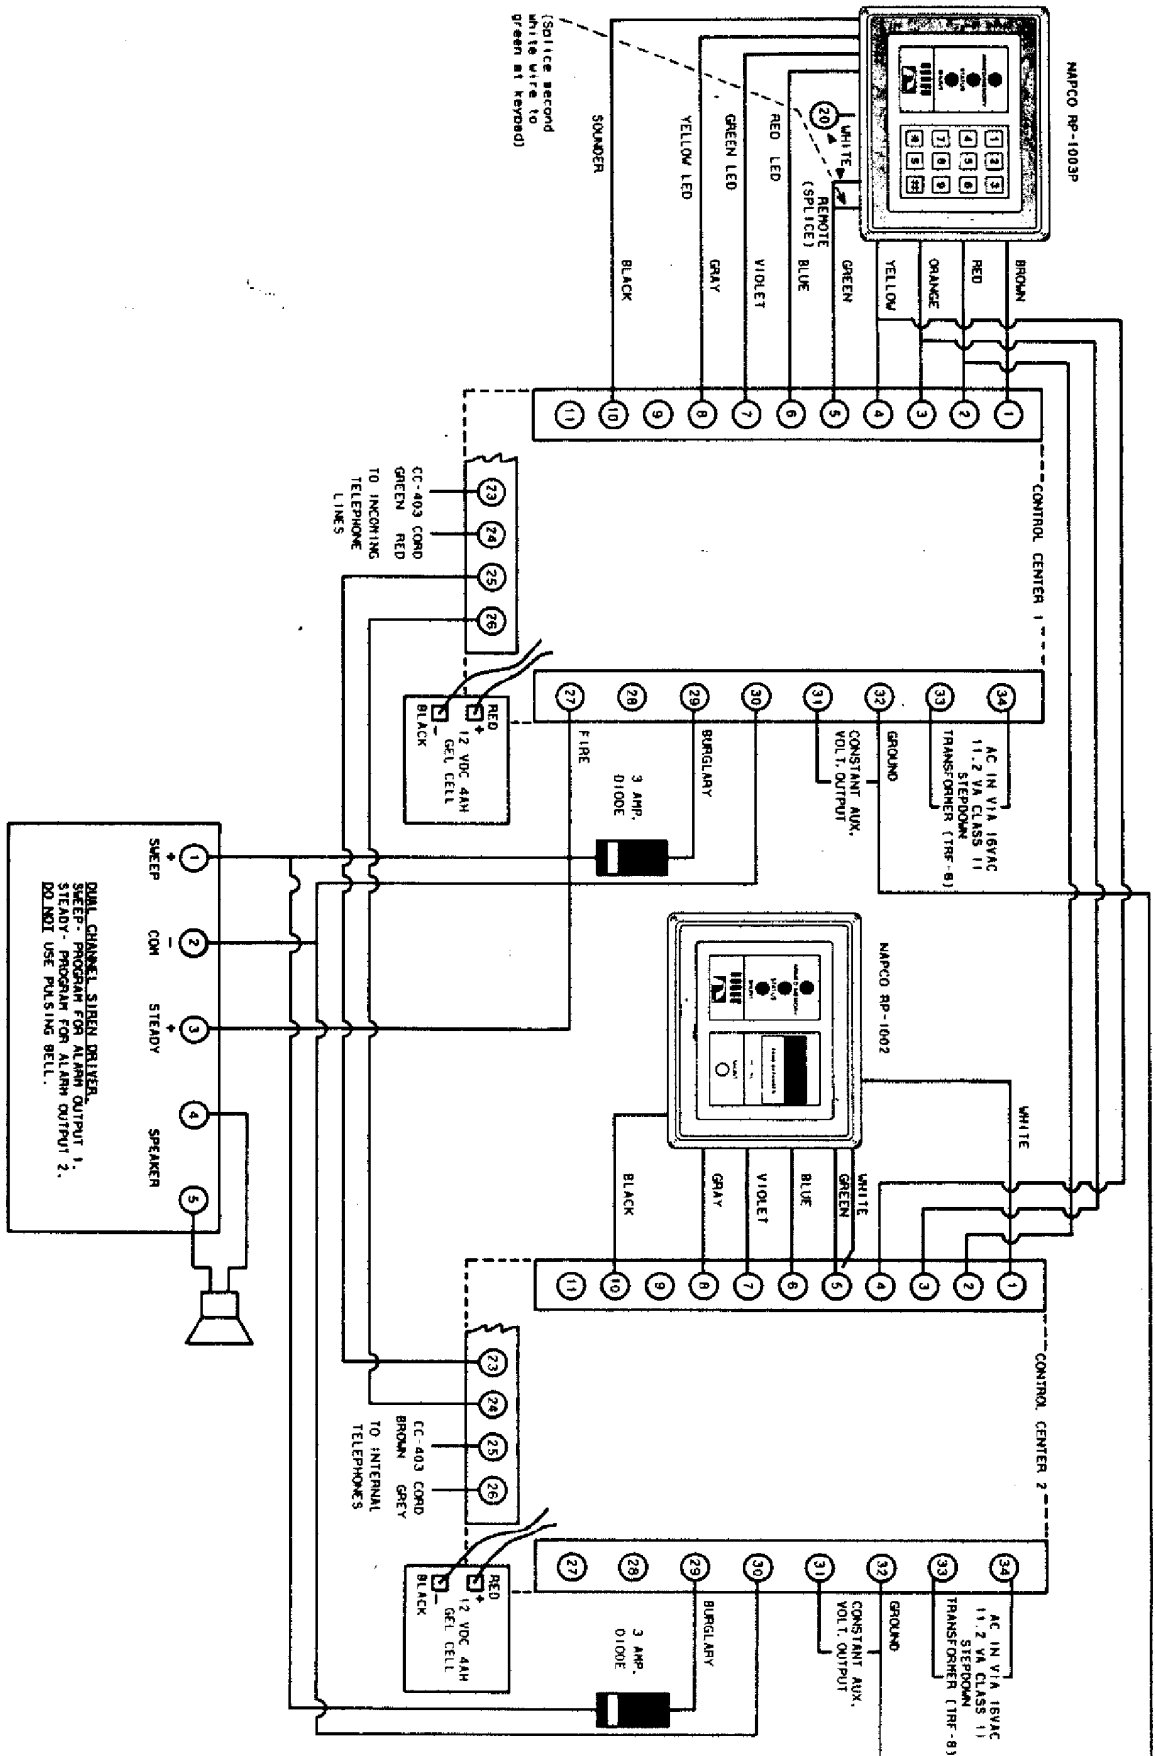

FIGURE 1: KEYPAD AND ZONE EXPANSION INDICATOR STATION WIRING REQUIRED WHEN USING TWO DIFFERENT ARMING CODES. OPTIONAL SHARED SIREN CONNECTIONS.
Although it is recommended that both of the control centers be wired to accept different arm/disarm codes, it is possible to use one code to arm and disarm them together. Each method requires different wiring connections, and different code loading and arming procedures. (See Wiring section, Figure 1 for one arm/disarm code, Figure 2 for two arm/disarm codes.)
Since incoming telephone lines are connected directly to the first control center, it will have reporting priority. Fire, panic and other high priority alarm devices should be wired to this first control center, as shown in Figures 1 and 2.
Two Arm/Disarm Codes (Figure 1): Connect all RP-1003P Keypads to the first control center and RP-1002 Zone Expansion Indicator Stations to the second control center. Use no keyswitches or RP-1003L Keyswitch Stations.
WIRING INFORMATION (SEE FIGURES 1 and 2)
(A) Two Arming Codes (Figure 1)
A common siren driver and speaker (terminals 27, 28 and 30) can be used to signal alarms on both control centers if one of the 3 amp. diodes supplied with the RP-1002 is connected between terminal 29 of each control center and the sweep terminal of the device. Figures 1 and 2 show one siren connected to signal both fire and burglary on the first control center and burglary on the second.